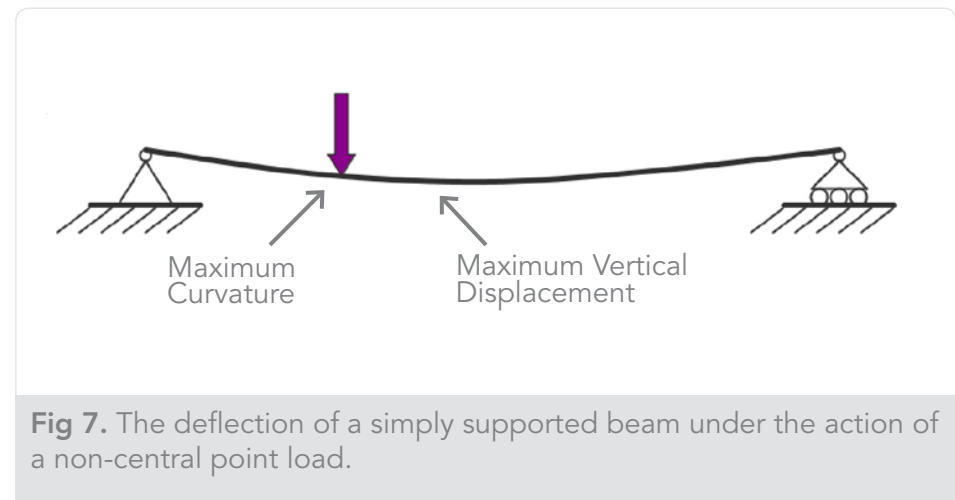

Fig 7. The deflection of a simply supported beam under the action of a non-central point load.
- If the point load is applied anywhere along the beam, except midspan, then the maximum vertical displacement does not coincide with the maximum curvature, which occurs at the point of load application (Fig. 7).